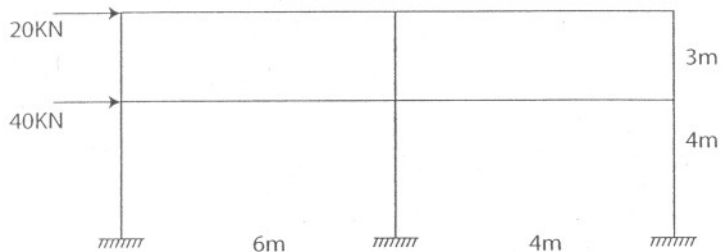

Fig. 3
17. Using portal method of analysis, analyse and draw BMD for the portal frame shown in fig.3.